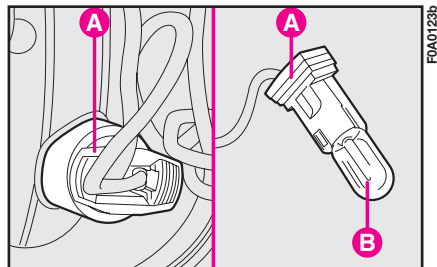

fig. 21
- 2) Press tabs **A**-fig. 21, remove the bulb holder from housing **B** and remove the bulb **C** (clipped in).